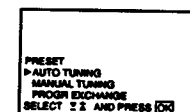

Fig. 7
- Select "PRESET" with  $\Delta$  or  $\nabla$  and press OK. (See Fig. 7.)